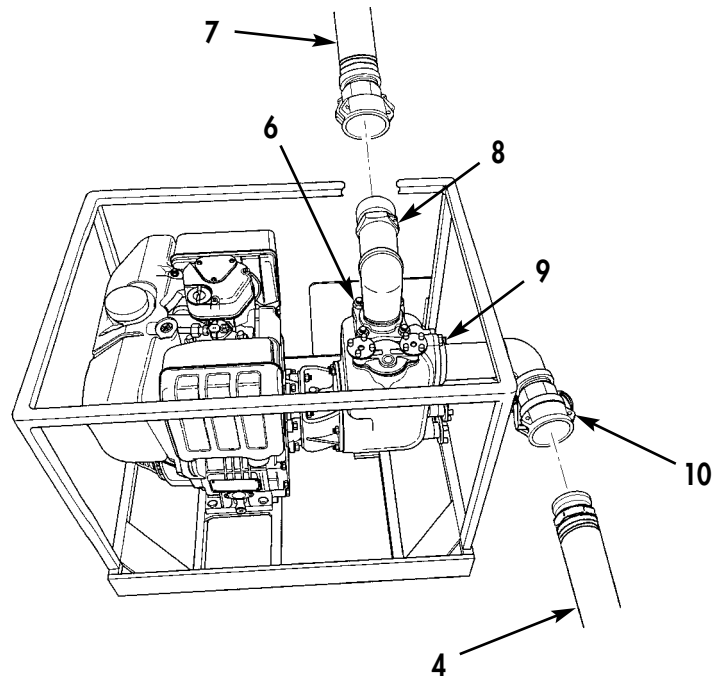

Figure 3. Disconnecting Pump.
7. Remove 2 in. (51 mm) DIA x 10 ft (3 m) long suction hose assembly (Figure 3, Item 4) from female quick-disconnect coupling (Figure 3, Item 10) on pump suction port of (Figure 3, Item 9). Drain water from hose assembly (Figure 3, Item 4) and install cap and plug.
8. Disconnect 2 in. (51 mm) DIA x 10 ft (3 m) long discharge hose assembly (Figure 3, Item 7) from male quick-disconnect coupling (Figure 3, Item 8) on pump discharge port of (Figure 3, Item 6). Install cap and plug.